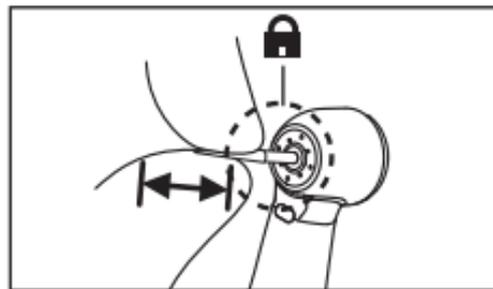

Fig. 7
- 4 Make sure that the bur is not removed by gently pulling and pushing the bur without depressing the push button (Fig. 7).